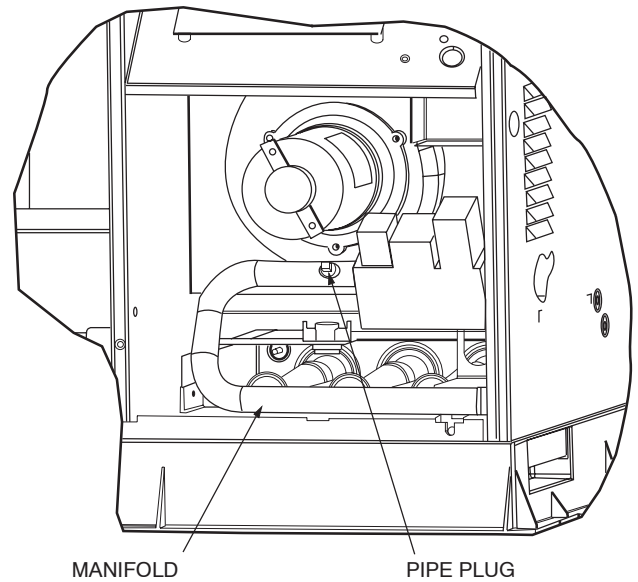

Fig. 13 - Burner Assembly
2. Remove pipe plug on manifold (See Fig. 13) and connect manometer. Turn on gas supply to unit.
2. Remove pipe plug on manifold and connect manometer (See Fig. 13).